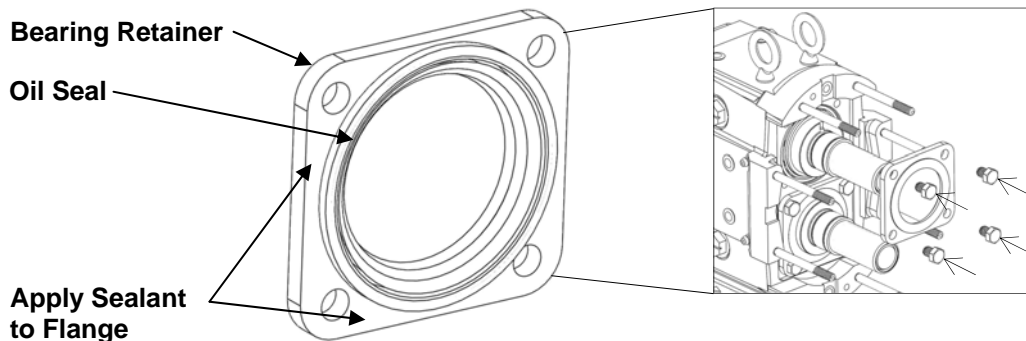

Figure 55: Bearing Retainer Installation
6) Once the correct backface clearance is achieved, fill all bearings with grease through the fittings on the mounting pads until grease is noticeable around the bearing assemblies. The shafts should be rotated during this initial greasing to distribute the grease evenly. Apply a light film of lubricant to the inside and outside diameters of the oil seals and install them into the bearing retainers. Apply a silicone sealant to the outside flanges on the bearing retainer (Figure 55). Once the silicone sealant is applied, install the bearing retainers onto the gear case.